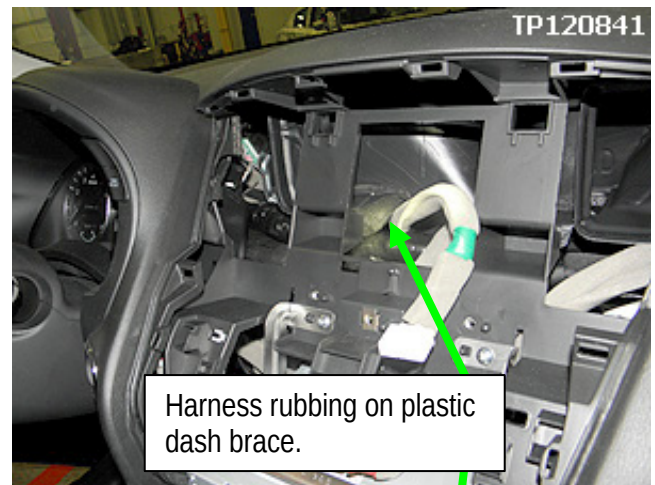

Figure 7
- If a rattle is present in the center vent area inspect for the Main Harness rubbing against the center air duct support (Figures 7 and 8).
- Apply additional “EPDM SEMI CLOSED CELL” foam (J-50397-2) between Main Harness and Center Air Duct bracket as shown in Figure 7.